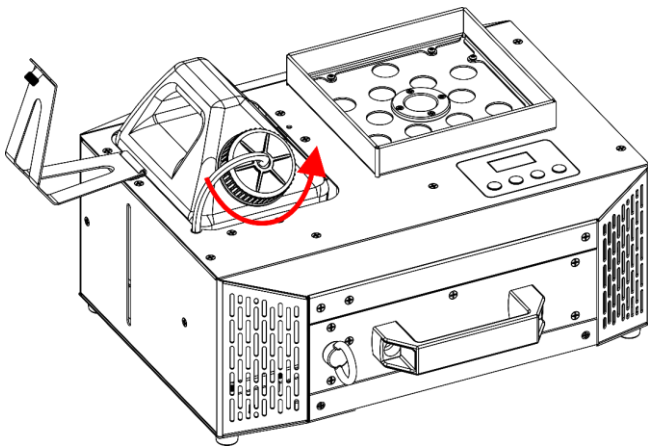

Fig. 30
- 04) Unscrew the lid on the fluid tank, as shown in Fig. 30.